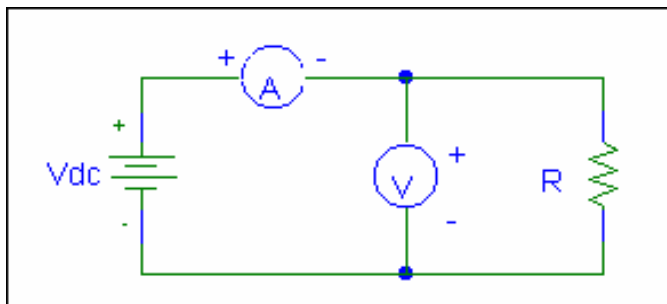

Figure 1c-1
2. Connect the circuit in **Figure 1c-1** with R = 5.1k Ω .